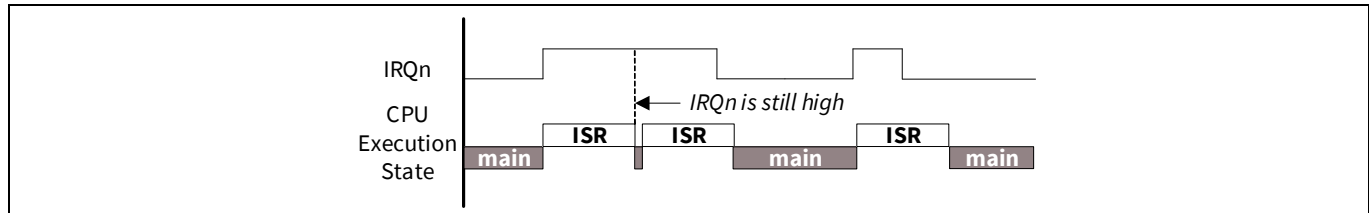
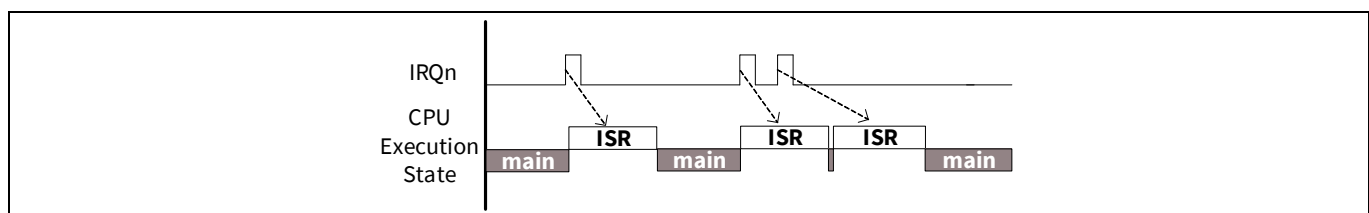

Figure 5-3. Level interrupts
Figure 5-4. Pulse interrupts
Figure 5-3 and **Figure 5-4** show the working of level and pulse interrupts, respectively. Assuming the interrupt signal is initially inactive (logic low), the following sequence of events explains the handling of level and pulse interrupts:
3. When the ISR is being executed by the CPU, one or more rising edges of the interrupt signal are logged as a single pending request. The pending interrupt is serviced again after the current ISR execution is complete (see **Figure 5-4** for pulse interrupts).
4. If the interrupt signal is still high after completing the ISR, it will be pending and the ISR is executed again. **Figure 5-3** illustrates this for level triggered interrupts, where the ISR is executed as long as the interrupt signal is high.